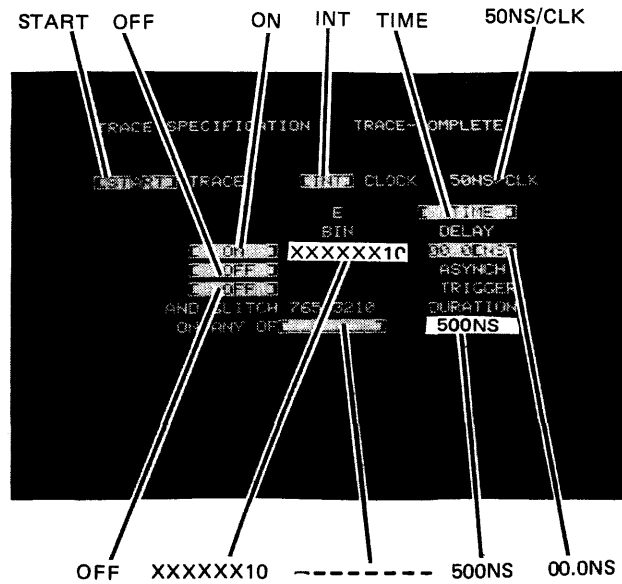

Figure 5-3. Trace Specification for Filter Width Adjustment
- d. Set up trace specification according to figure 5-3.